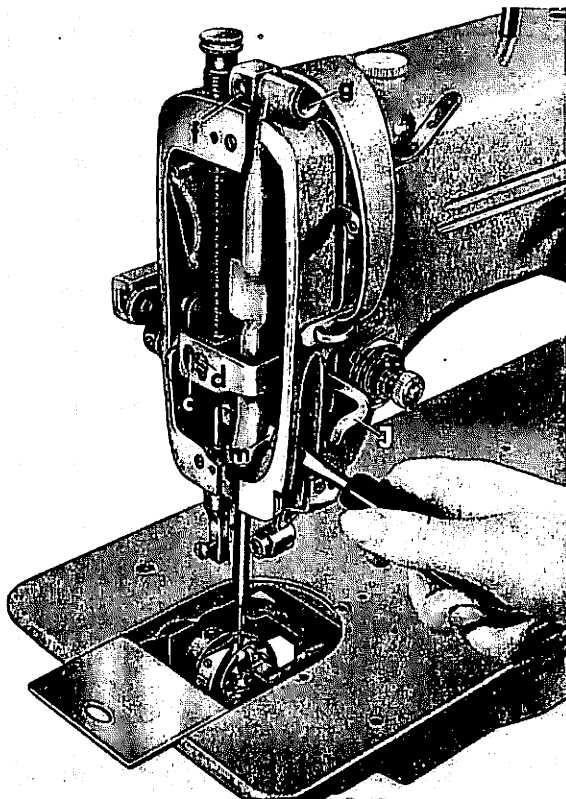

Fig. 28
Thread regulator **J** (Fig. 28) is mounted on the presser bar guide collar and moves up and down with the presser bar as the sewing foot passes over *irregularities in thickness*. By so doing, it adapts the thread consumption to the varying thicknesses of the material being sewn. As a result of this action, the check spring has to take up less thread when thicker portions of the material pass under the sewing foot.
Thread regulator **J** can be adjusted vertically after loosening screw **d** (Fig. 28). By setting the thread regulator higher or lower the amount of thread to be controlled by the thread check spring can be adjusted within certain limits. It is recommended to correlate the thread regulator and tension barrel settings so that the thread check spring not only takes up the proper amount of thread, but also pulls the thread upwards perpendicularly.
If adjustment is required, loosen set screw **m** (Fig. 28) and set the needle bar higher or lower, as may be required.
2. Take out pressure regulating screw and remove presser bar spring. Loosen set screw **c** (Fig. 28) and pull the presser bar up out of the machine.
Pull thread regulator **J** (Fig. 28), presser bar guide collar and presser bar lifting bracket back out of the machine.
3. Remove complete needle bar frame assembly so that the height setting of the needle bar will not be disturbed. To do this, loosen set screw **b** (Fig. 36) and remove eccentric stud **a**. Then loosen screw **f** (Fig. 28) and pull out hinge stud **g**. This done, pull the needle bar frame, enclosing the needle bar, forward out of the machine.